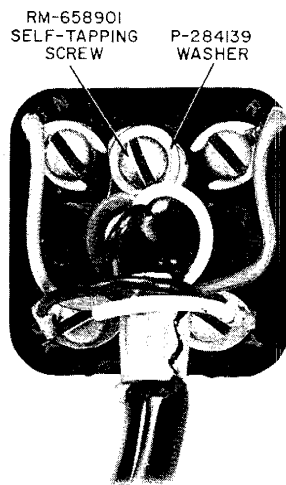

Fig. 16—Early Model D4BP Cord Terminated on 283(MD) Plug
**Note:** An RM-658901 self-tapping screw and a P-284139 flat washer will be shipped with each 283B(MD) plug (Fig. 16).
- (5) Bend cord spade tips and dress red and green conductors so they lie outside of the mounting screw hole guides (Fig. 16).
- (6) Seat base of plug in cover before tightening screws to prevent pinching of conductors.